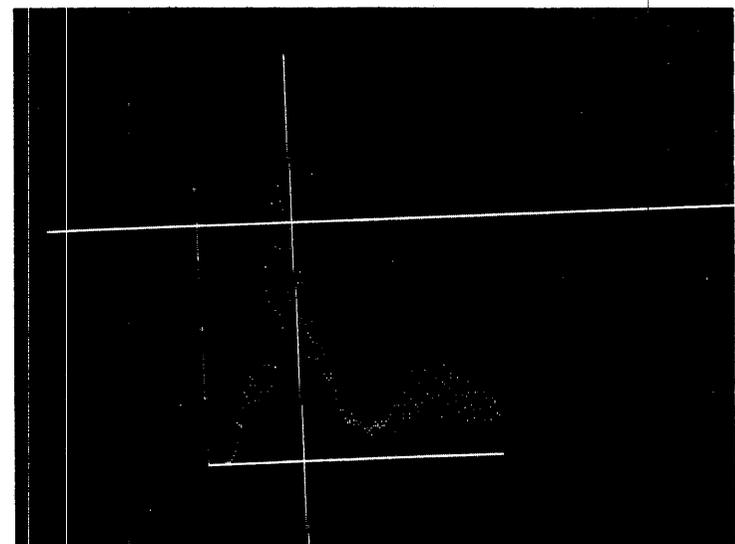

FIGURE 6. Pick pairs of points (1 diastole, 1 systole) on ROI curve of L.V.
the end-systole frames (valleys) from the curve displayed. The frame numbers are printed on the output device. Add the 1st column frame numbers to create an end-diastole image. The end-systole image is the summation of the 2nd column. (Figure 6)
- 1) the method of creating end-diastole and end-systole images is described on page 3, section 1B. (Figure 6)
The program will request the save area number and the curves corresponding to end-diastole and end-systole. The end-diastole curve is displayed and the user selects pairs of points corresponding to end-diastole and end-systole points (Figure 6). The ejection fractions for each pair of points is printed and the average ejection fraction for all the pairs is output on the terminal.